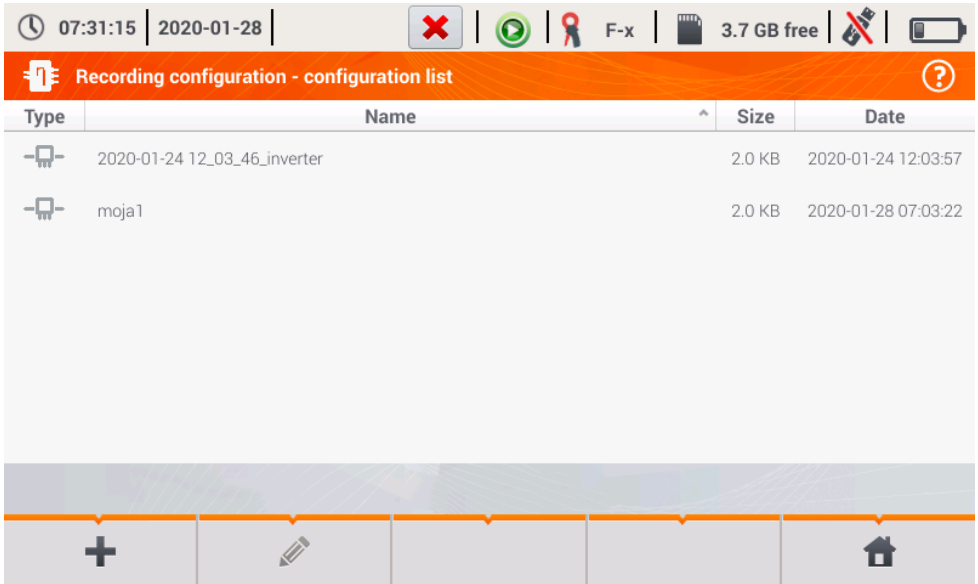

Fig. 3.11. Menu of recording configuration
- 📁 entering the list of saved configurations of inverter efficiency and creating a new configuration. Configurations are presented similarly to the measuring configurations, they have their own icon . Double-tap on a selected configuration will open it automatically and entering the screen with inverter efficiency settings (Fig. 3.11). The button in the menu bar  is used for adding new configurations starting of the inrush current (a window is displayed, as shown in Fig. 3.12 with default settings). Icon  is used to edit the chosen configuration.